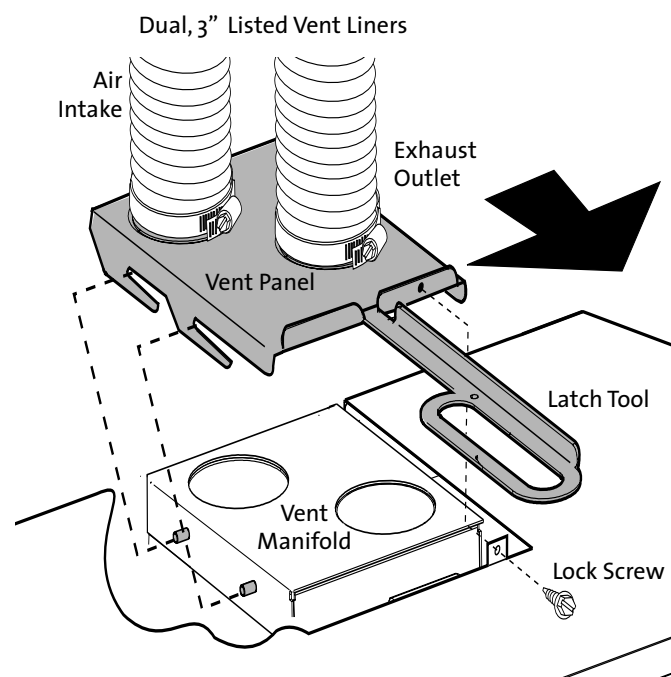

Figure 9. Vent connection.
2. Attach the ends of the flex liners to the appropriate collars on the Vent Panel and secure each with screws or duct clamps. Sealant is unnecessary. See Fig. 9.
3. Position the firebox under the vent collar panel and use the Latch Tool to engage the panel with the associated pins on the firebox Vent Manifold. Fig. 9.